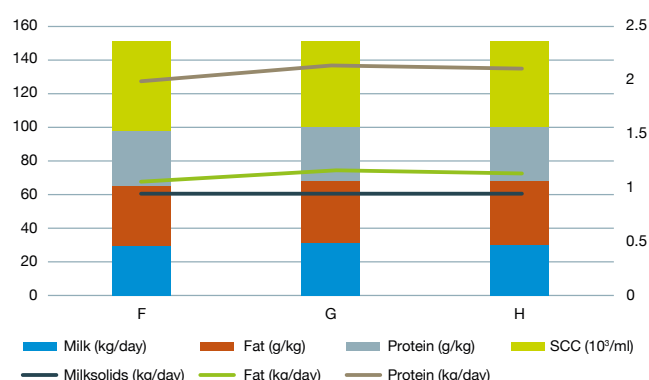

Figure 30. The effect of outwintering in-calf heifers on milk yield and quality during early first lactation
- Early lactation milk yield was not affected by outwintering treatment (Figure 30)